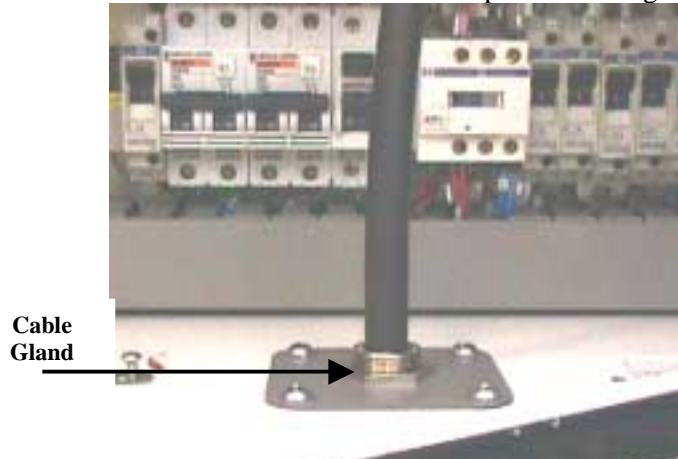

Figure 2.28 Cable gland detail
1. Feed the mains cable through the slot in the base of the machine into the **Control Panel**. The Mains cable must be fed through cable gland and securely tightened. See fig 2.28.